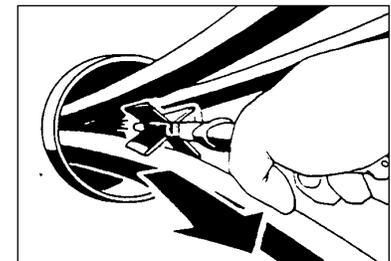

Figure 23
4. If necessary, remove tape (and tie wrap) from the cable bundle. Spread cables and apply lubricant where the cables come together. Remove as much clip core and sealant as possible with a pair of pliers. (Figure 23)